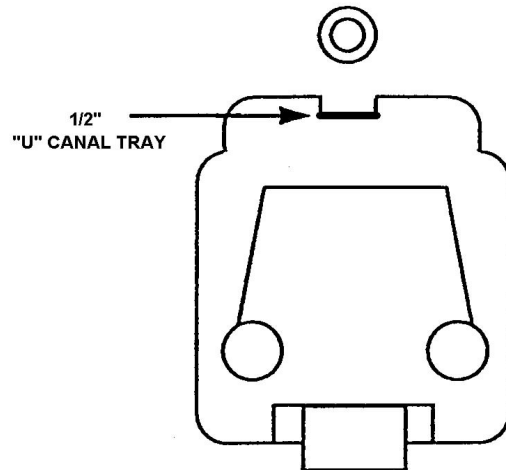

FIGURE 3
- b) If "U" canal hose path is 1/2" or less (see **Figure 3**), an upper tray replacement section is required (P/N 01110711).